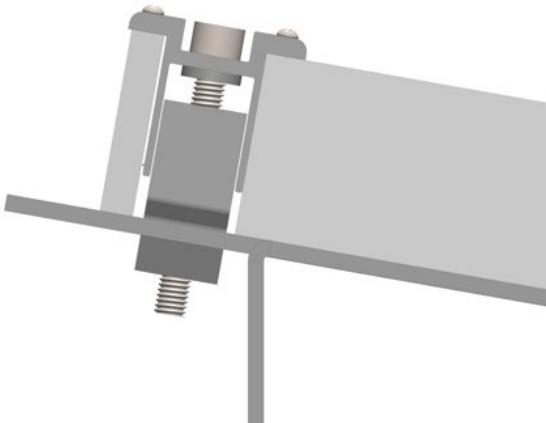

Fig. C3 – Module Fastened to HUS Support with KB konnect clamp and end block
- 3 Secure the KB Konnect end clamp to the module (see Fig. C3). The clamp may be tightened with either a standard drill or a torque wrench to the recommended torque setting - **8.3 Nm/6.1 ft-lb**.